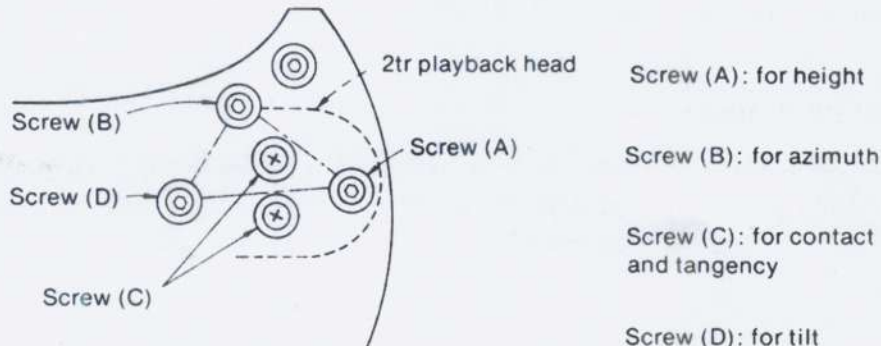

Fig. 40
The screws used to make each adjustment of the 2-track playback head are in the places shown in figure 40.
- (2) Adjust the azimuth-adjustment screw (B) (figure 40) so that playback output (VTVM readout) becomes maximum.